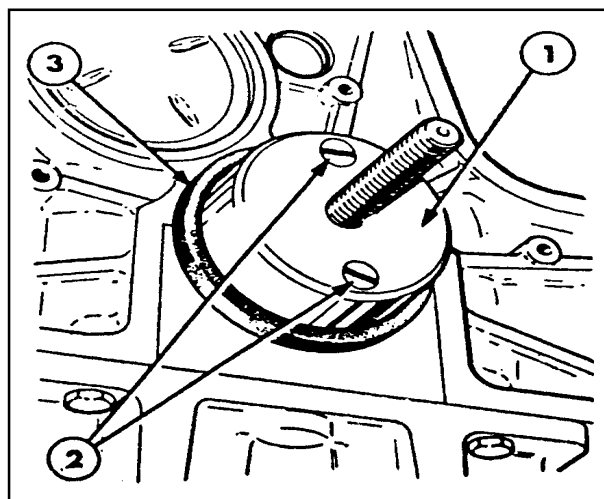

Figure 41
The seal is installed with the rear face of the seal flush with the block. For this the tool is assembled as shown in Figure 41.
12. Thoroughly clean the crankshaft flange to ensure location of the tool and install the tool centre-stock to the flange and secure with the two screws, Figure 41.